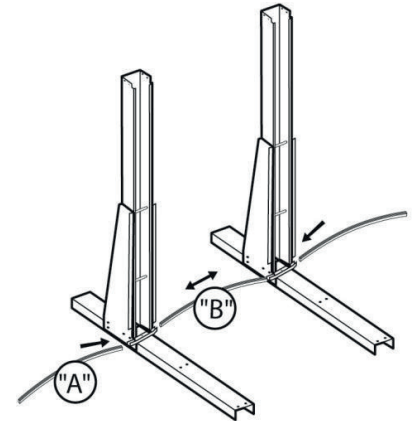

Fig. 13.
On each side of the pool, place the transition guide in the track connection (6), Fig. 13 Then continue with the installation of the transition guides "A".
Here you can see the modules and the location of the transition guides "A" and "B", Fig. 13 (550 oval), Fig. 14 (640 oval), Fig. 15 (730/915 oval).